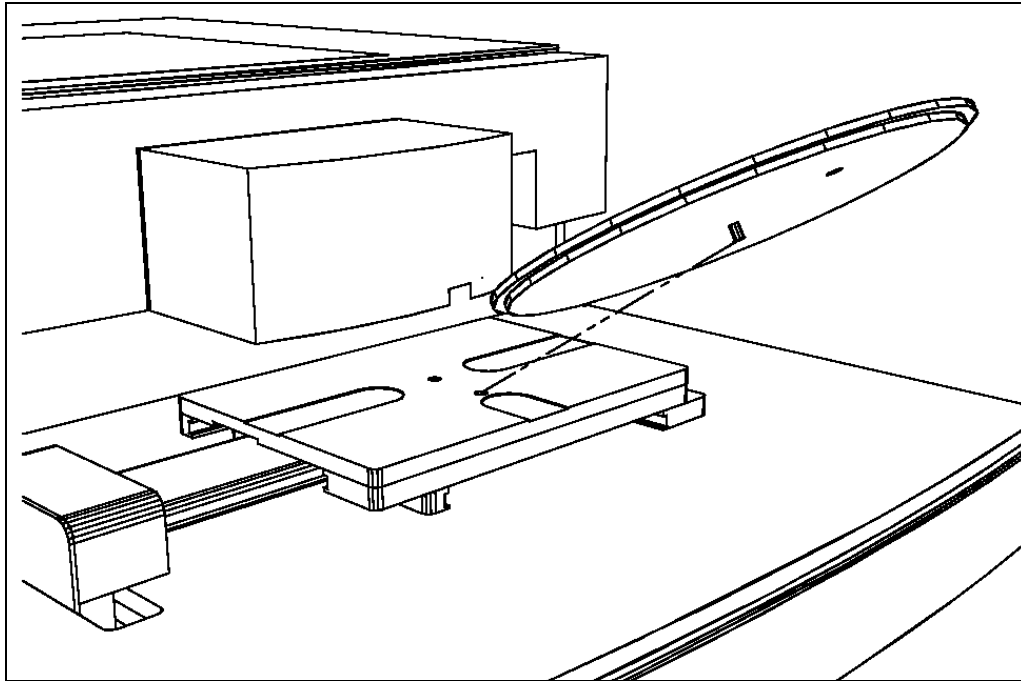

Figure 2.3. *Installing the Rotary Stage Table*
- Place the spindle on the underside of the rotary stage table, into the front bushing in the middle of the stage, as shown in Figure 2.3.